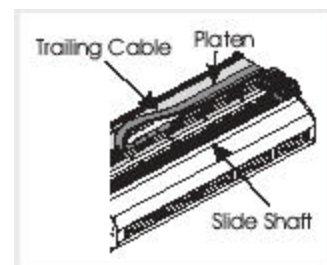

Figure 5
3. Apply distilled water to a lint-free pad and wipe the entire surface area of the platen (Figure 5).